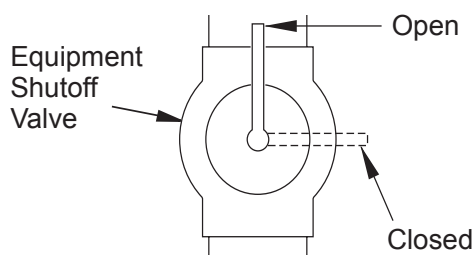

Figure 17 - Equipment Shutoff Valve
1. Close equipment shutoff valve (see Figure 17, page 13).
1. Open equipment shutoff valve (see Figure 17).